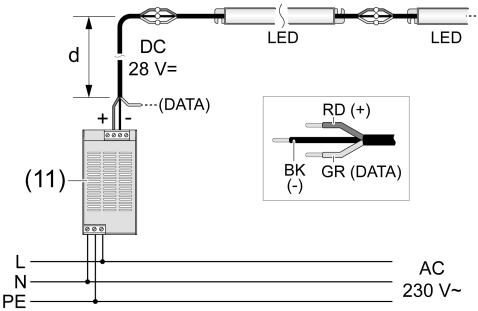

Figure 6: Circuit diagram
- Connect the LED luminaires according to the circuit diagram (Figure 6).